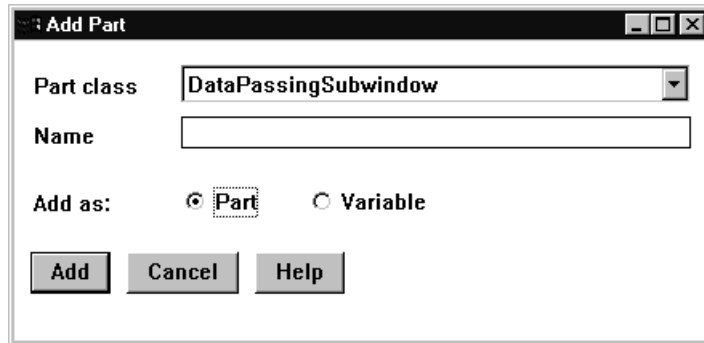

Figure 38. The Add Part window
1. Select **Add part** from the **Options** pull-down menu. The Add Part window appears, which resembles the window shown in Figure 38 on page 119: